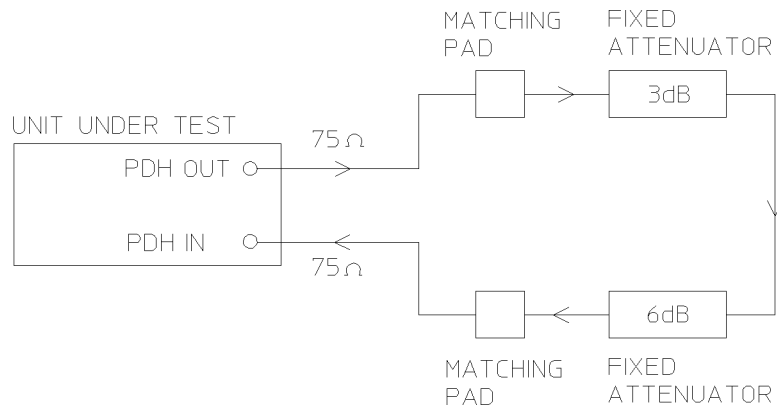

Figure 3-66
2. Connect the equipment as shown in Figure 3-66.